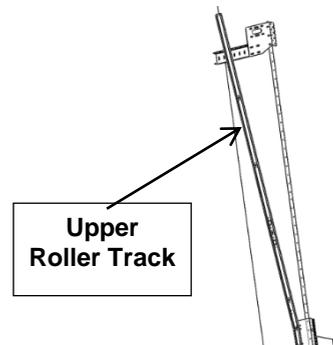

Figure 11 Attach upper roller track to mounting rail and upper track support
9. Attach the upper roller track to the mounting rail and the top track support using 1/4"-20x3/4" sidewalk bolts and 1/4"-20 flange nuts in the provided slots (**Figure 11**)